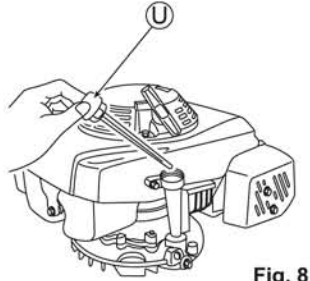

Fig. 8
1. Remove Oil tank cap (U), pull out the oil gauge, and then insert it not screwing it. (See Fig. 8)
2. Remove Oil tank cap (U), and confirm that the oil level is between the upper and lower limits of the oil gauge.
4. Firmly close Oil tank cap (U) after confirmation.